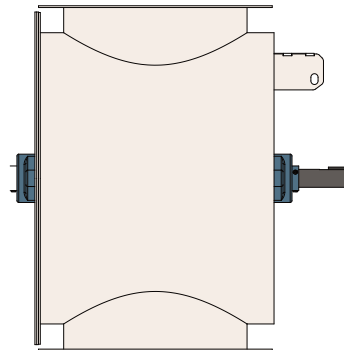

FIG. 6a
Carefully lift the Motor (B) up to the Rotor Assembly (A2) and align its bushing with the 1/4" Key (B1) on the Rotor Shaft (A2A) [FIG. 6A].